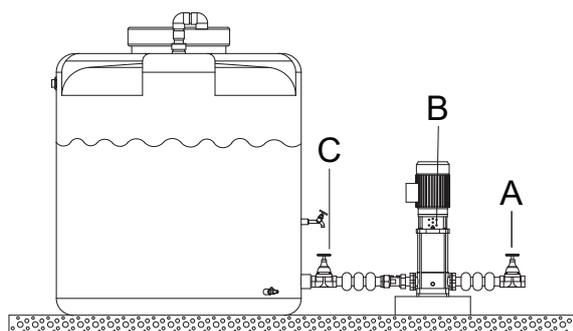

Figure 5: Closed circuit
7.3.1 In a open or closed circuit with sufficient supply pressure (see figure 5 Closed circuit)